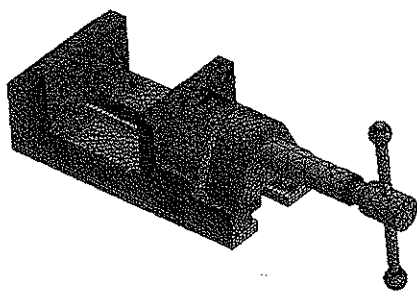

Figure 8-38 Mesh generated after sizing
11. Choose the **Update** tool from the **Mesh** contextual toolbar; the mesh is generated, as shown in Figure 8-38.